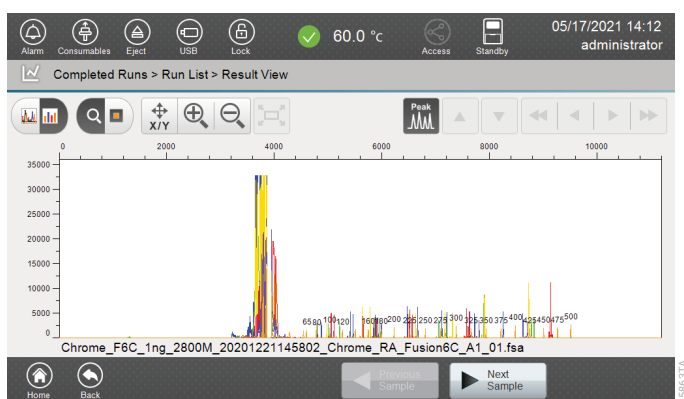

Figure 109. Sample-specific 'Result View' screen.
5. Select the sample in the File Name corresponding to the run you wish to review, and then select **View** in the footer to review the electropherogram data of the sample (Figure 109).
Note: Figure 109 has peak size labeling for the internal lane standard fragments turned on.